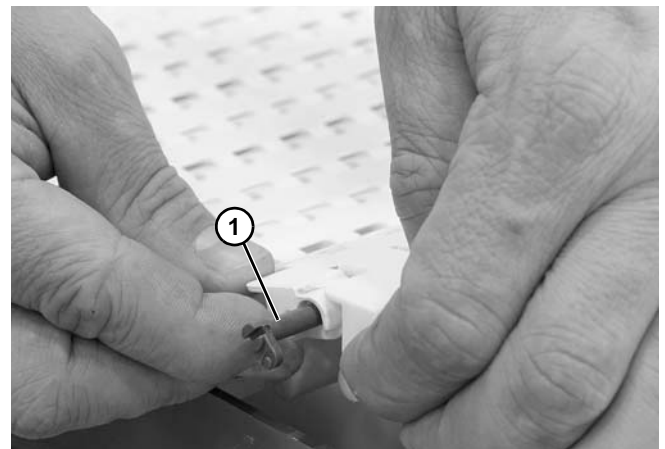

Figure 37
3. Remove the belt rod (**Figure 37, item 1**).